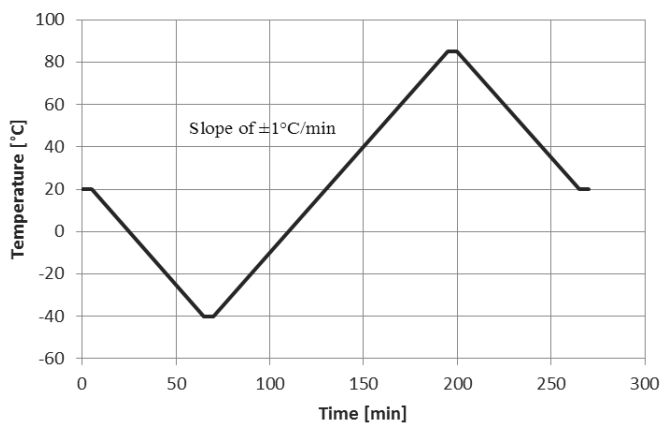

Figure 27: Recommended Temperature profile for calibration
2. Place the sensor on a rate table in a thermal chamber and implement temperature profile according to Figure 27¹